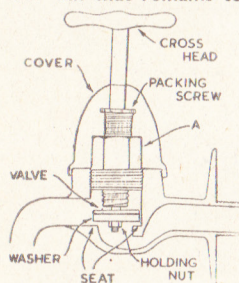

Fig. 1—Tap section
If the tap drips continuously, it follows that the rubber washer in the tap has worn out and requires to be renewed. To fix a new washer in the tap, first unscrew the cover (see Fig. 1) to reveal nut (A), which should be turned anti-clockwise until the top of the tap is disconnected from the bottom half. All that remains to be done is to unscrew the lock nut which secures the old washer, take